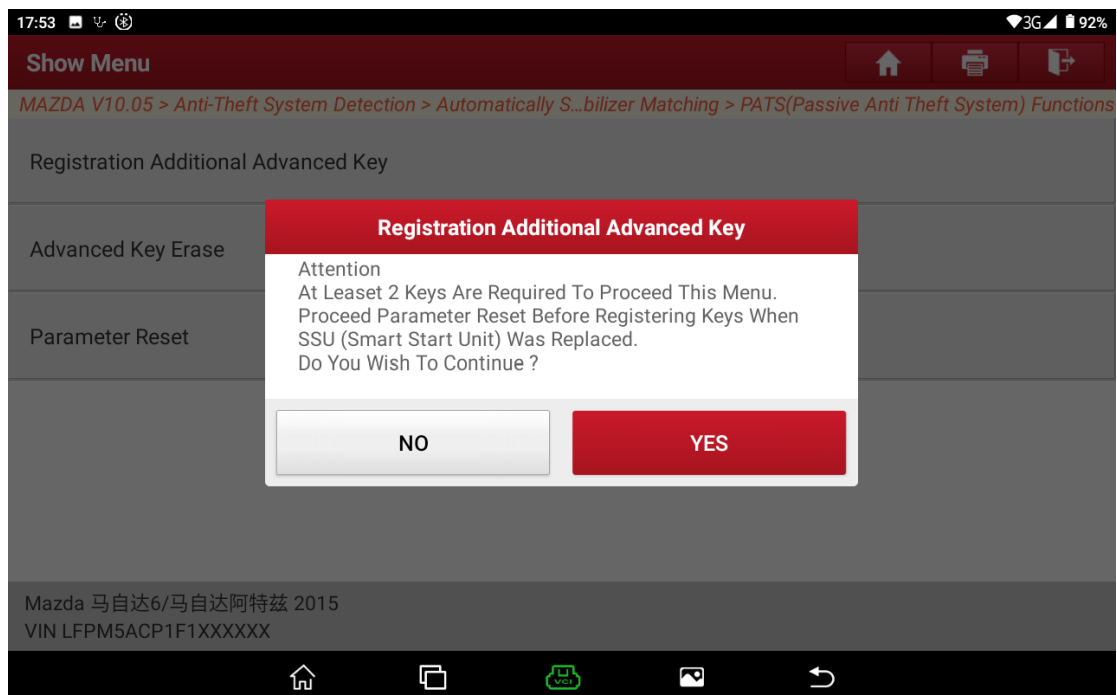

Figure A11
9. Before performing this function, perform the [Parameter Reset] Function first. Choose [No] to exit the function, or choose [Yes] to access the next step. See Figure A11.